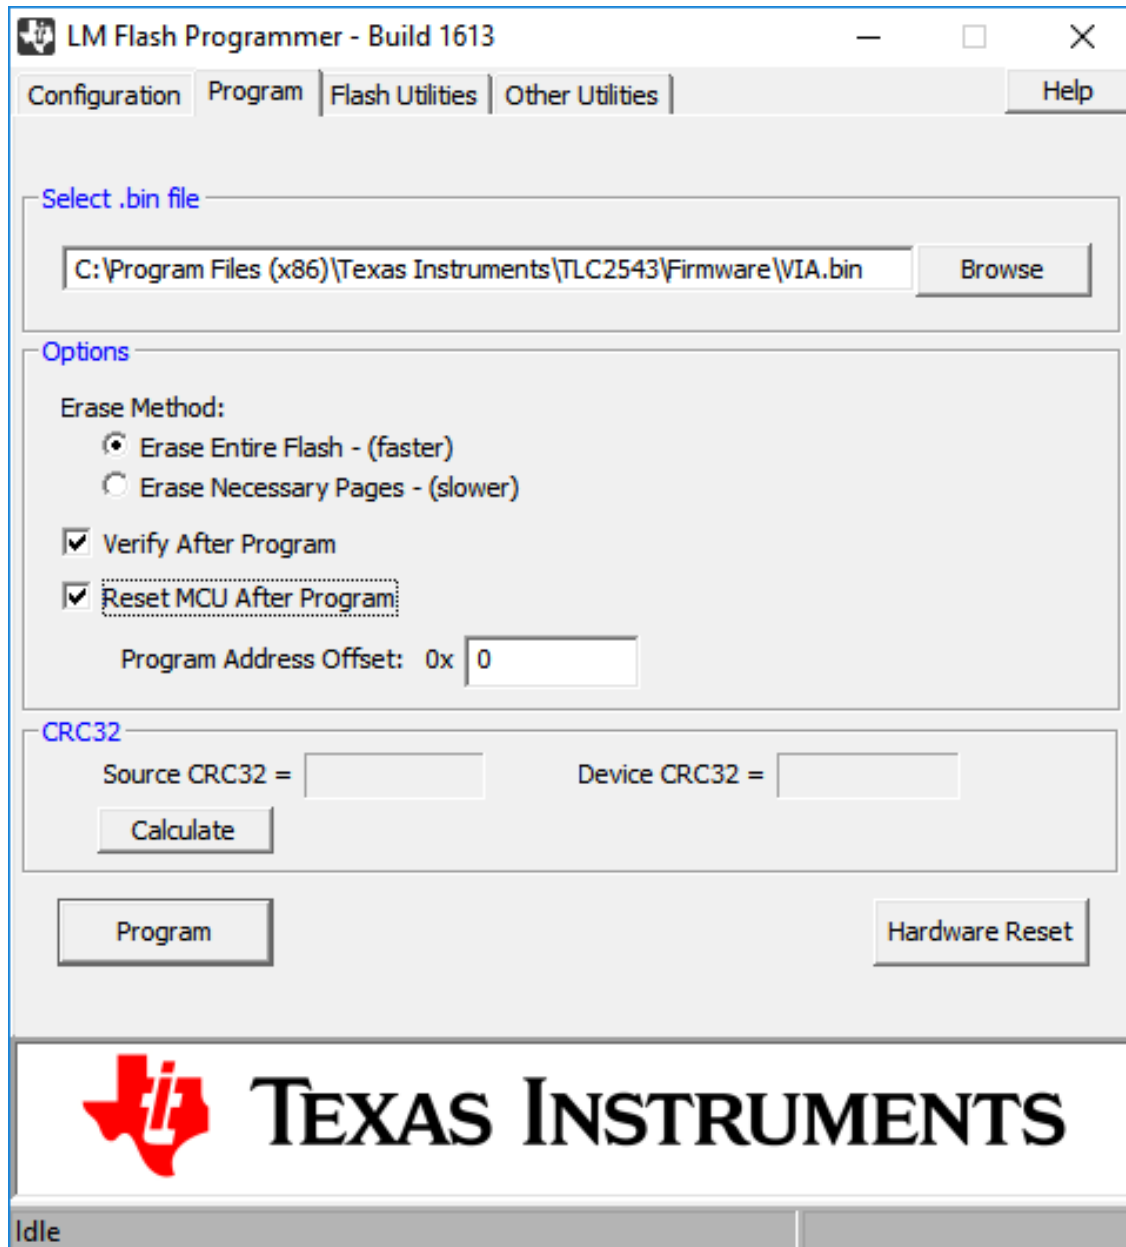

Figure 8. TM4C1294 LaunchPad™ Development Kit Programming Using LM Flash Programmer
4. Program the TM4C1294 with the BOOSTXL-TLC2543 EVM firmware from the Program tab as shown in Figure 8.